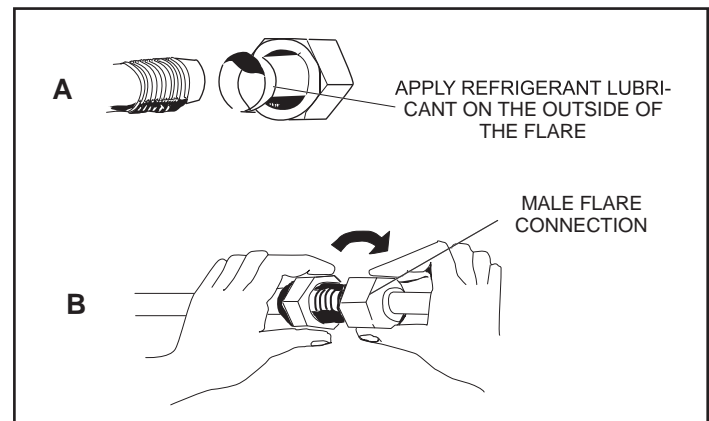

Figure 6. Making Connections at Indoor Unit (Male to Female Connection)
5. Apply recommended HFC-410A refrigerant lubricant to the outside of the field-provided flared line sets (figure 6 -- A).
6. Align the union tube and flared refrigerant lines with each other, then tighten the flare nuts lightly at first to obtain a smooth match (figure 6 -- B).